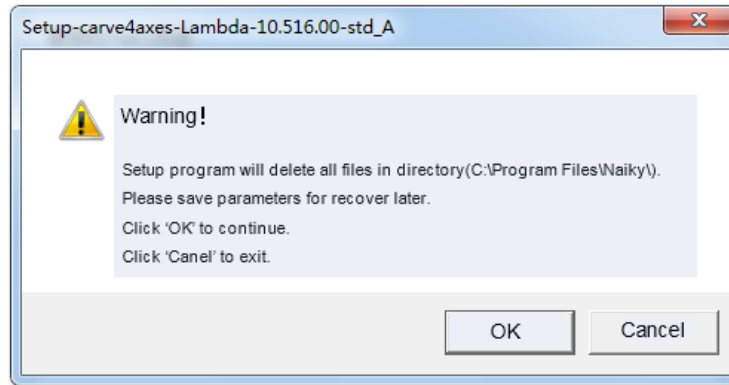

Fig. 2-1 Warning to delete previous files
1. Power on the computer, and then insert installation CD. Double click the icon  in "My Computer" to start installing. If this is your first time to install the software, please directly skip to step 4. If not, a dialog box as shown in Fig. 2-1 will pop up.